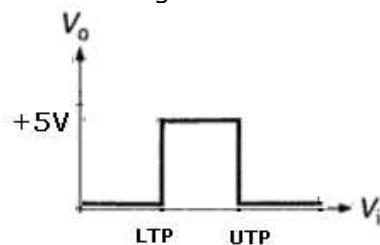

Figure 17.52: Solution to Example 17.12
- Transfer characteristics are shown in figure 17.52.